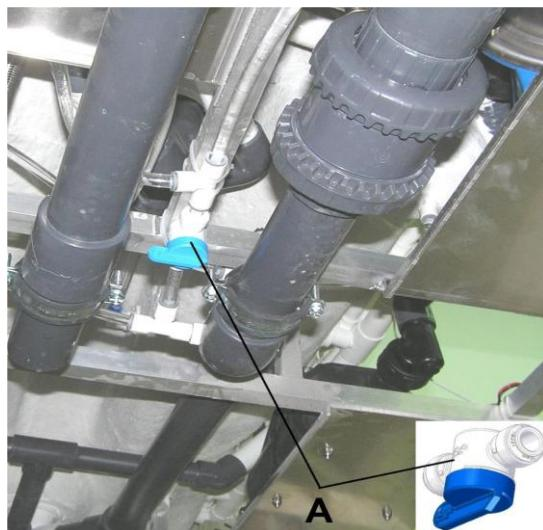

Figure 5 – Pump drain valve location
After connecting the bathtub to the water and electrical system in accordance with the user's instructions, it is necessary to discharge the liquid with which the pump has been flooded. To do this, use the pump drain valve located at the bottom of the bath (fig.5, A). When the valve is opened, a green-coloured liquid should drain out. This is a glycerol-based, environmentally friendly antifreeze (down to -25°C), approved by the National Institute of Hygiene. Leave the valve in the open position. The first start-up of the pump should be carried out without a patient in order to flush the water system of the device.
- e) close the valve responsible for draining the pumps (fig.5, A),